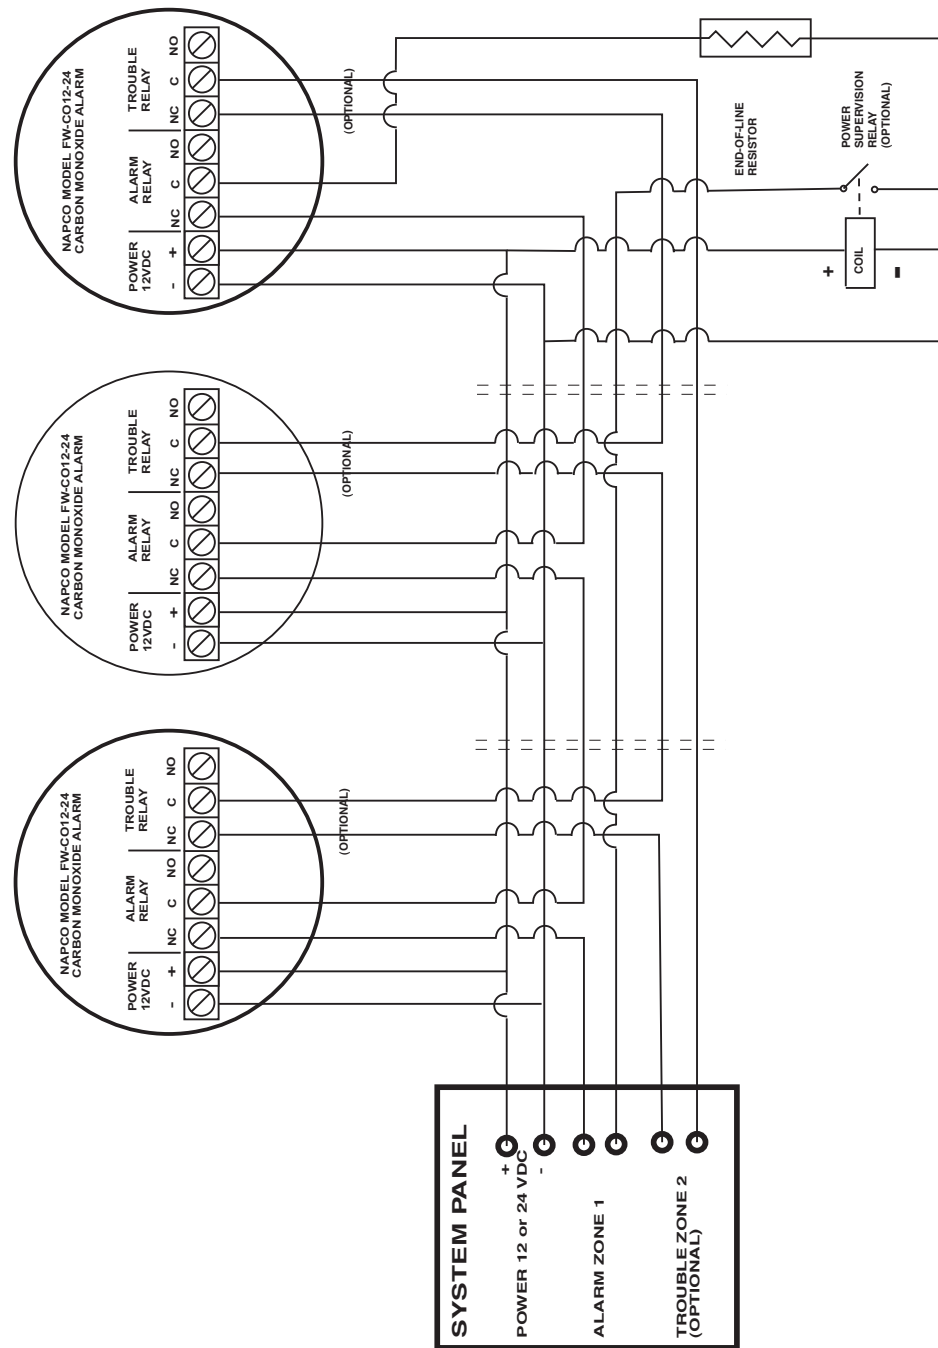

Figure 6. 12-24VDC System Multiple Alarms: Installation Wiring Diagram
- 9.5.4 The FW-CO1224 alarms do not include power supervision. This may be accomplished by installing a power supervision relay at the end of the alarm power circuit, such as the NAPCO FT2200. (see Figure 6). There is no internal backup battery.